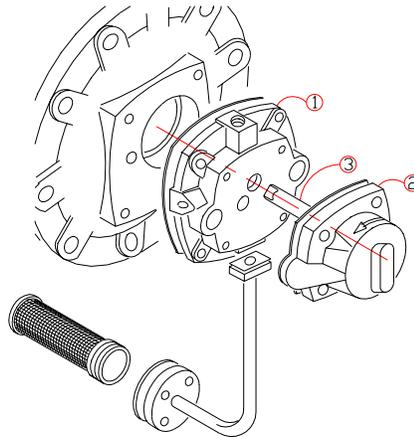
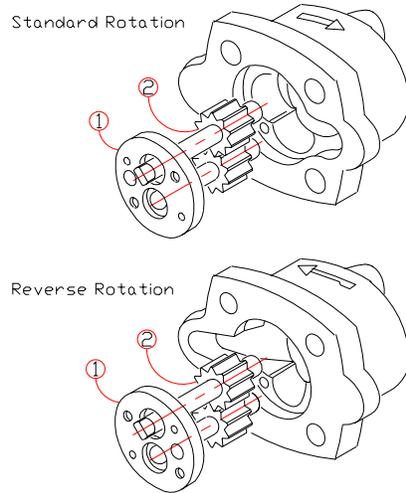

Fig. 25
Fig. 26
The oil pump assembly is fitted to the casing rear cover and is of the spur gear type (Fig. 25). Oil is drawn through a strainer located in the lower casing and an external pipe to the pump base (1). The pump is located in the body (2), which is driven by a shaft (3) that connects to the rear of the crankshaft. Oil is supplied at pressure through a fitting located on the top of the pump base. Standard rotation of the pump is counter clockwise as indicated by the directional arrow, however if due to installation requirements the compressor is required to rotate in the reverse direction, the pump body must be rotated 180° (Fig. 26).
- Remove the four bolts, which secure the pump body to the base and withdraw the pump complete with shaft (Fig. 25).
- Observe the plate and gear orientation within the body to ensure that reassembly is correctly completed (Fig. 26).
- Remove the bolts, which secure the end plate (1), withdraw the plate from the locating taper pin and gear (2).
- i) Refit the pump gears and end plate, ensuring that the plate is fitted in accordance with the standard direction (Fig.26) unless the compressor is configured for reverse operation.